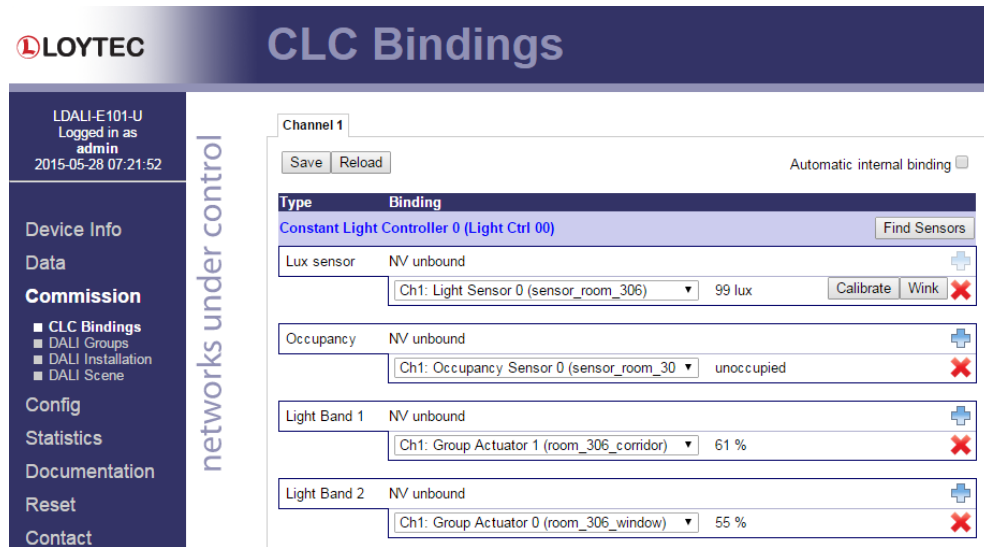

Figure 38: DALI Installation Web Interface: CLC Bindings.
- To determine which sensors (occupancy & lux) are used as inputs to and which light groups are controlled by a constant light controller instance go to the **CLC Bindings** page (see Figure 38).